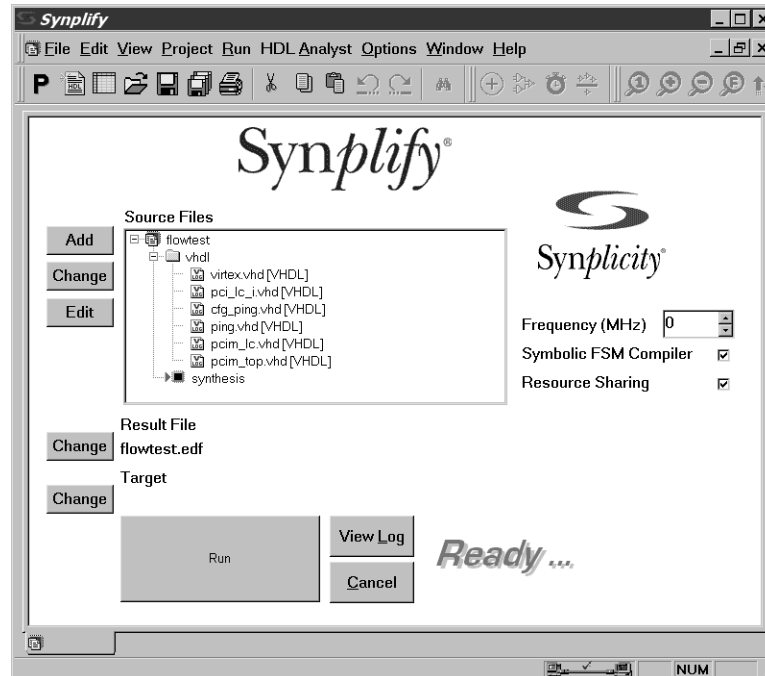

Figure 5-16: Project Window with Source Files
9. In the Source Files list, view the list of newly added source files by double-clicking the `flowtest/vhd1` folder (if it is not already open). Drag to reorder the source files in the hierarchical order shown in Figure 5-16.